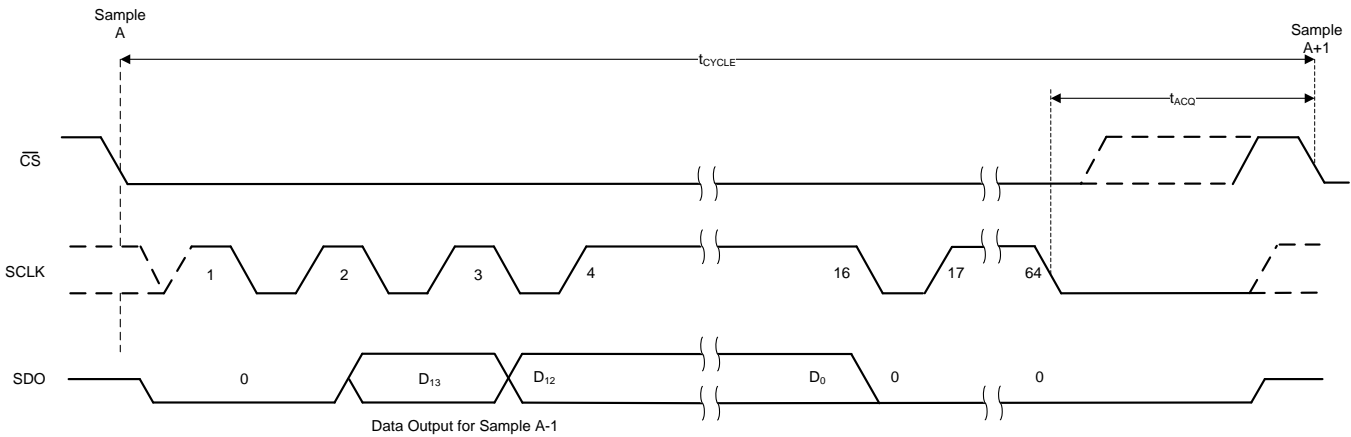

Figure 39. Timing for Offset Calibration During Normal Operation
The host controller must provide a serial transfer frame as described in Figure 38 or in Figure 39 to enter the OFFCAL state.
If the host controller provides more than 18 SCLKs but pulls the  $\overline{CS}$  high before providing 64 SCLKs, then the offset calibration process is aborted and the device enters the ACQ state. Figure 39 and Table 4 provide the timing for offset calibration during normal operation.
(1) In addition to the timing specifications of Figure 39 and Table 4, the timing specifications described in Figure 2 and the Timing Requirements table are also applicable for offset calibration during normal operation.